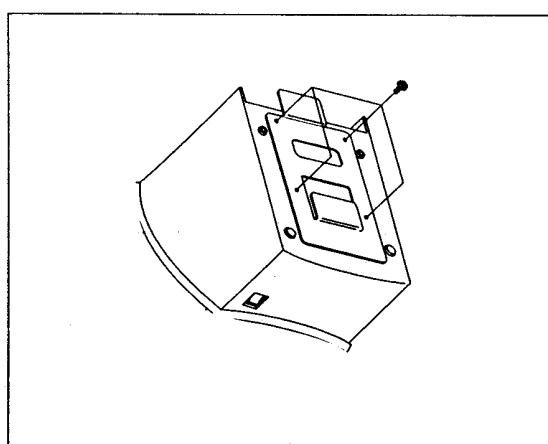

Figure 3-10 Wall Mount #6
7. After assembling the Case-Lower to Set Body, turn the Set over and attach the BRKT Hanger to the Case Lower then tighten four screws. (Figure 3-10)